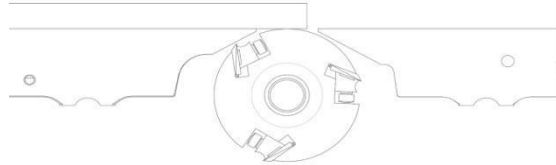

Fig.36:
**STEP 1:** Place a straight edge on outfeed table over the cutterhead and slightly touching the cutterhead body as shown in **FIG. 36**.